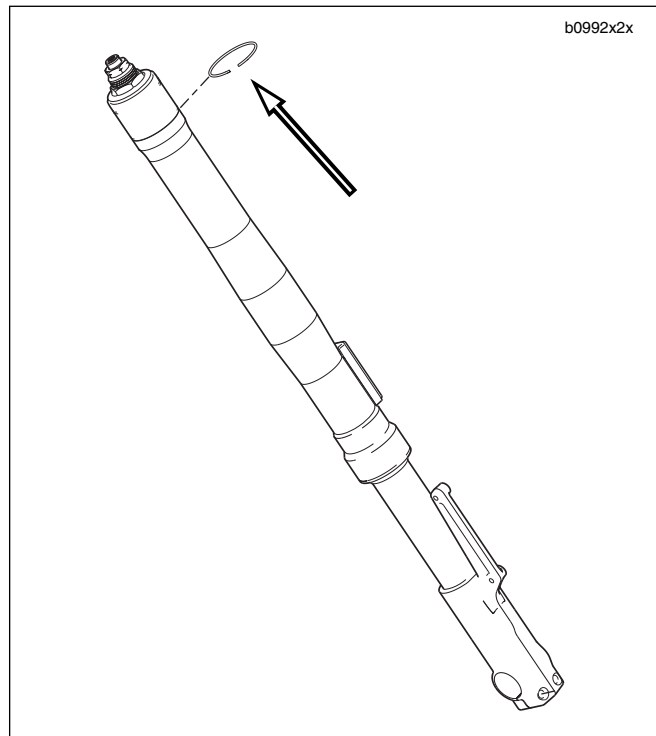

Figure 2-63. Stopper Ring
4. Loosen upper (1) and lower (3) fork clamp pinch fasteners.
5. Remove fork from upper fork clamp (2)
6. See Figure 2-63. Slide the stopper ring up and over the top of the fork.